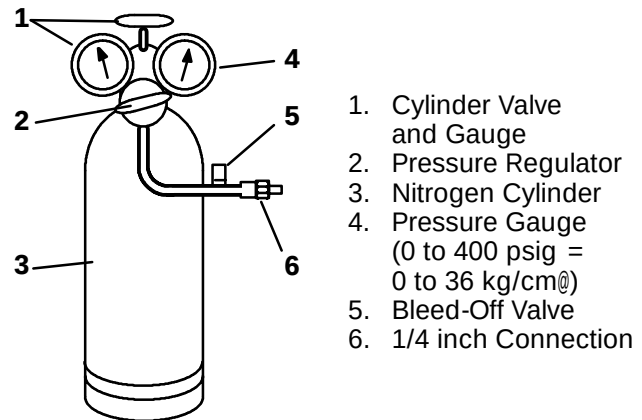

Figure 4-3. Checking High Pressure Switch
- Connect switch to a cylinder of dry nitrogen (see Figure 4-3).